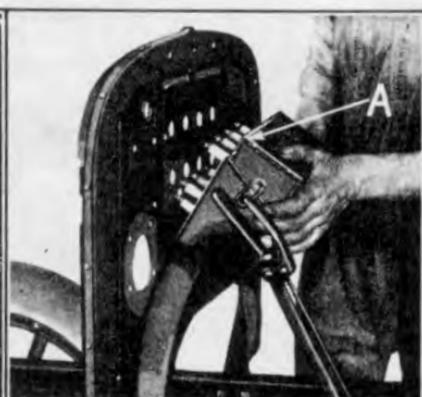

Fig. 80
- (a) Position coil box on dash (See "A" Fig. 80).